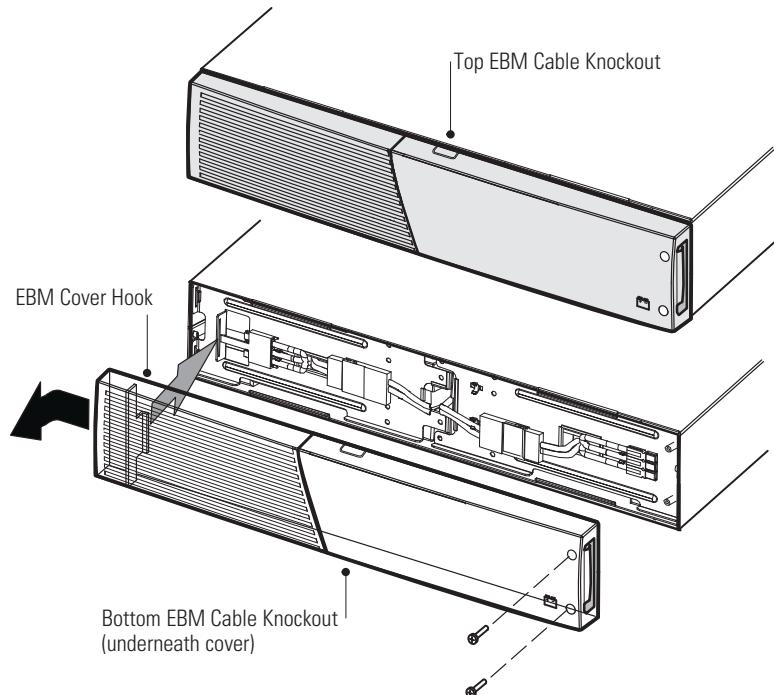

Figure 27. Removing the EBM Front Cover
1. Remove the front cover of each EBM. See Figure 27.
5. Remove the front cover of each new EBM. See Figure 27.
6. For the bottom (or only) EBM, remove the EBM cable knockout on the top of the cover. See Figure 27 for the location of the top EBM cable knockout.
7. If you are installing more than one new EBM, for each additional EBM remove the EBM cable knockout on the top **and** bottom of the EBM front cover. See Figure 27 for the location of the EBM cable knockouts.
To replace the cover, verify that the EBM cables are routed through the EBM cover knockouts, then slide the cover from the left to the right until it connects with the cover hook near the left side of the EBM cabinet. Reinstall the two screws on the right side of the front cover. For reference, see Figure 27 on page 51.